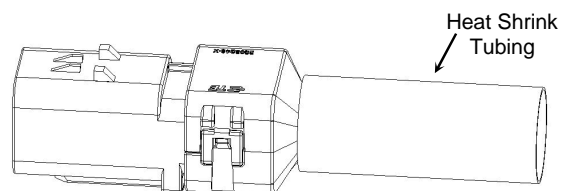

Figure 8
Angle backshells. Slide the tubing around the wire exit, as shown in Figure 8, ensuring it covers the back lip.
7. Likewise, heat shrink tubing may be applied to the elbow in the same manner as the backshell, described in step 9 of section 3.A, as well as Figures 8 and 9.